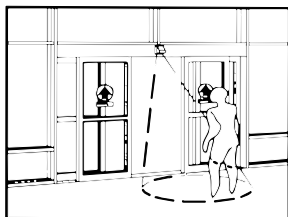

Figure 1
1. Check electronic sensor by walking toward the center of the door opening from several different angles at a moderate speed. The door should start opening when you are about four feet from the door, should slide open smoothly, and stop without impact. Repeat on other side of opening. Move slowly through the door opening (6 inches per second). The door should remain open. (See Figures 1 and 2)